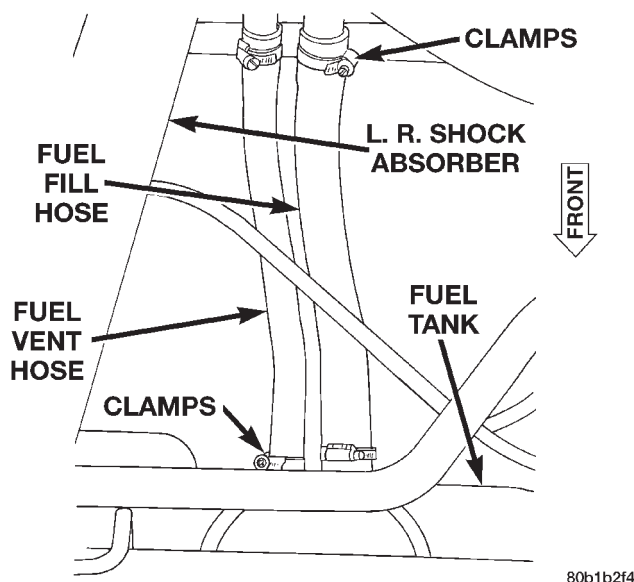

Fig. 34 Fuel Hoses at Rear of Fuel Tank
(1) Perform Fuel System Pressure Release procedure as described in this group.
(2) Disconnect negative battery cable at battery.
(3) Remove fuel tank filler tube cap.
(4) Raise vehicle on hoist.
(5) If equipped, remove fuel tank skid plate. Refer to Fuel Tank Skid Plate in Group 23, Body.
(6) Two rubber hoses (fuel filler and fuel vent hoses) connect the fuel tank fittings (at rear of tank) to the metal fuel fill tube assembly at body (Fig. 34). Disconnect hose clamps (Fig. 34) at fuel fill tube assembly end of hoses and disconnect rubber hoses.
(7) Position a drain hose into the fuel vent hose (Fig. 34) and into tank.
(8) Drain fuel into an approved portable holding tank or a properly labeled gasoline safety container.